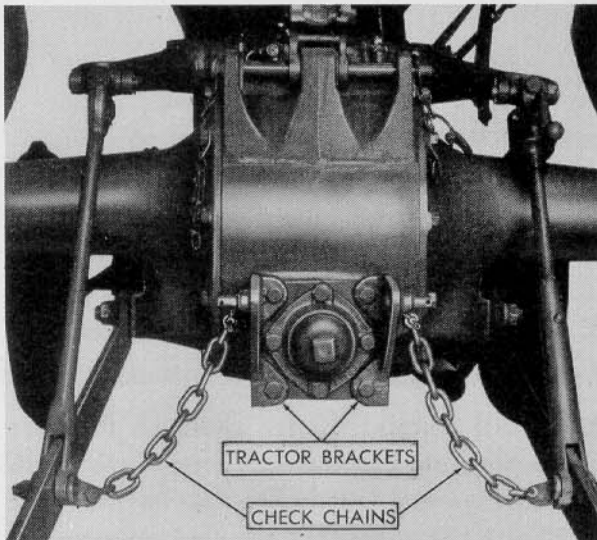

Figure 5
4. Attach tractor brackets marked R (right) and L (left) as shown in Figure 5, with cap screws removed from tractor lower link check chain anchors. Attach check chains and clevises to tractor brackets as shown.